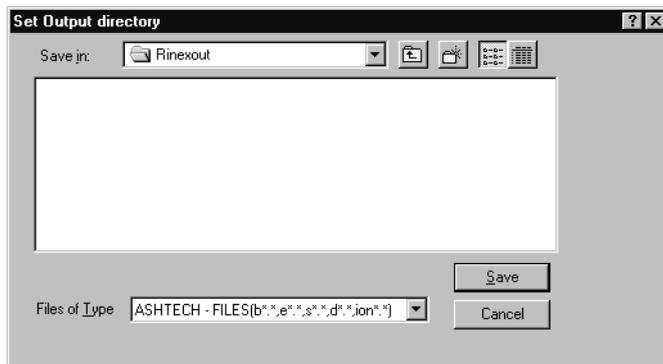

Figure B.9. Set Output Directory Dialog Box
- Click **Output dir** to open the **Set output directory** dialog box (Figure B.9).